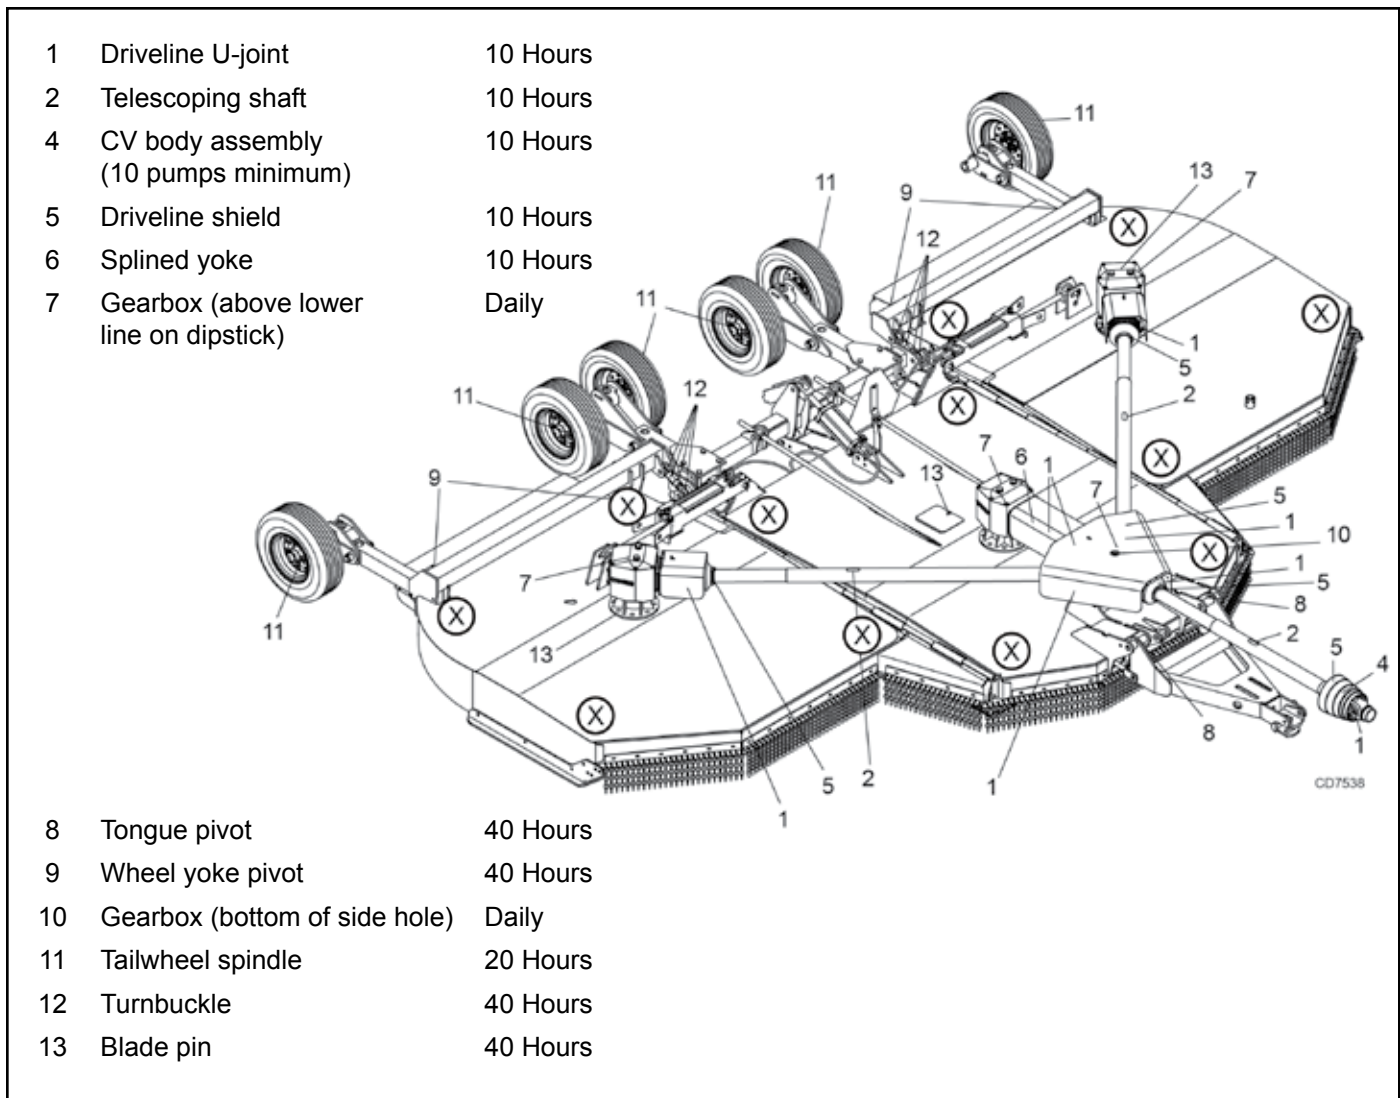

Figure 4. Jackstand Placement and Lubrication Points
1. Jackstands with a load rating of 1000 lbs. or more are the only approved blocking device for this cutter. Install jackstands (shown by Xs in Figure 4) under the cutter before working underneath unit.
See Figure 4 for lubrication points and frequency or lubrication based on normal operating conditions. Severe or unusual conditions may require more frequent lubrication.
2. Raise cutter and block securely (see Figure 4).
3. Align crossbar (8) with blade access hole in the cutter frame. Remove cap screw (50), blade pin lock clip (12), keyhole plate (11), and shims (9 & 10). Carefully drive blade pin (7) out of crossbar.